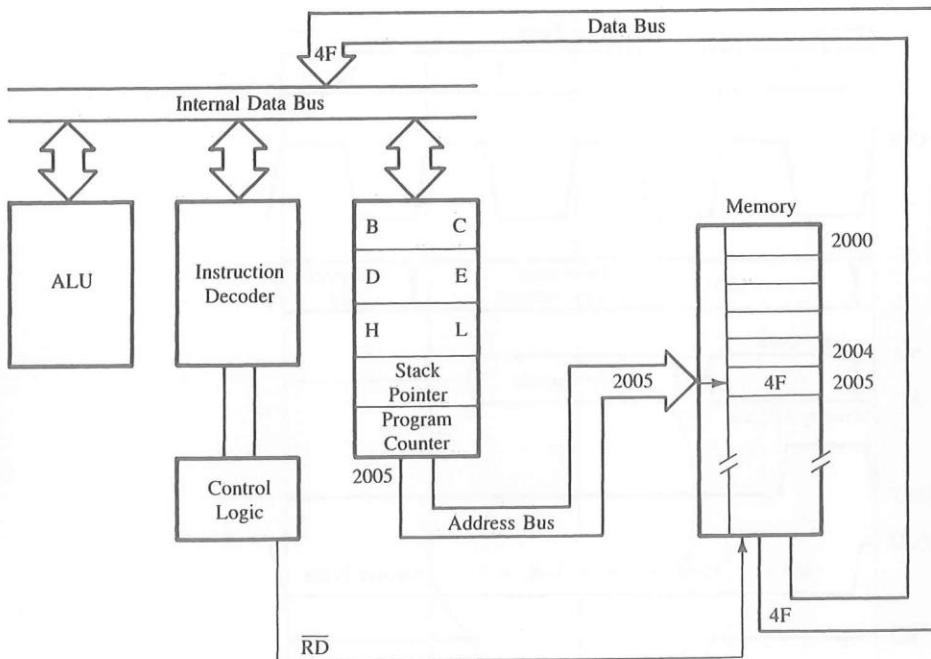
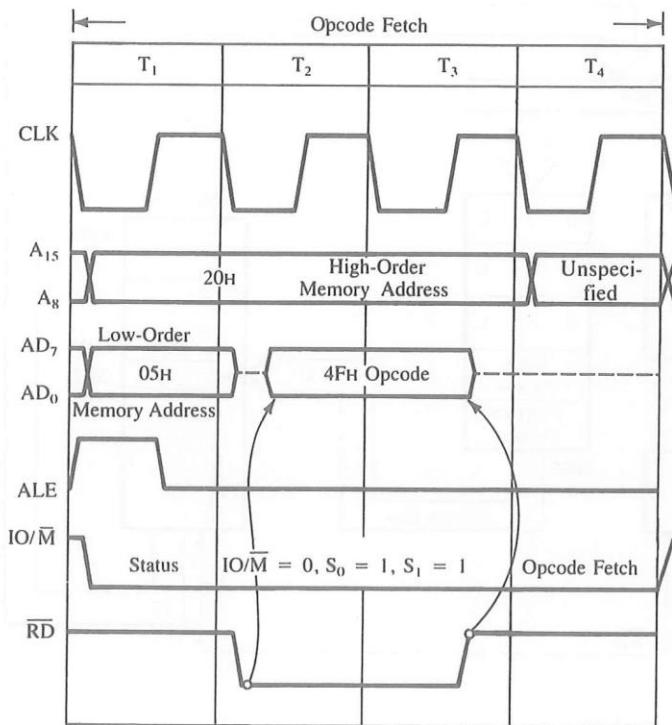

FIGURE 4.2
FIGURE 4.3
To fetch the byte (4FH), the MPU needs to identify the memory location 2005H and enable the data flow from memory. This is called the Fetch cycle. The data flow is shown in Figure 4.2, and the timings are explained below.
Figure 4.3 shows the timing of how a data byte is transferred from memory to the MPU; it shows five different groups of signals in relation to the system clock. The address bus and data bus are shown as two parallel lines. This is a commonly used practice to represent logic levels of groups of lines; some lines are high and others are low. The crossover of the lines indicates that a new byte (information) is placed on the bus, and a dashed straight line indicates the high impedance state. To fetch the byte, the MPU performs the following steps:
Step 1: The microprocessor places the 16-bit memory address from the program counter (PC) on the address bus (Figure 4.2). In our analogy, this is the equivalent of our courier getting on the road to find the address.
Figure 4.3 shows that at T_1 the high-order memory address 20H is placed on the address lines $A_{15}-A_8$, the low-order memory address 05H is placed on the bus AD_7-AD_0 , and the ALE signal goes high. Similarly, the status signal IO/M goes low, indicating that this is a memory-related operation. (For the sake of clarity, the other two status signals, S_1 and S_0 , are not shown in Figure 4.3; they will be discussed in the next section.)
Step 2: The control unit sends the control signal \overline{RD} to enable the memory chip (Figure 4.2). This is similar to ringing the doorbell in our analogy of a package pickup.
The control signal \overline{RD} is sent out during the clock period T_2 , thus enabling the memory chip (Figure 4.3). The RD signal is active during two clock periods.
The machine code or the byte (4FH) is decoded by the instruction decoder, and the contents of the accumulator are copied into register C. This task is performed during the period T₄ in Figure 4.3.
The need for demultiplexing the bus AD₇-AD₀ becomes easier to understand after examining Figure 4.3. This figure shows that the address on the high-order bus (20H) remains on the bus for three clock periods. However, the low-order address (05H) is lost after the
Figure 4.3 shows that the ALE goes high during T_1 . When the ALE is high, the latch is transparent; this means that the output changes according to input data. During T_1 , the output of the latch is 05H. When the ALE goes low, the data byte 05H is latched until the next ALE, and the output of the latch represents the low-order address bus A_7-A_0 after the latching operation.
After carefully examining Figure 4.3, we can make the following observations:
Machine cycle is defined as the time required to complete one operation of accessing memory, I/O, or acknowledging an external request. This cycle may consist of three to six T-states. In Figure 4.3, the instruction cycle and the machine cycle are the same.
Figure 4.3 shows the \overline{RD} (Read) as a control signal. Because this signal is used both for reading memory and for reading an input device, it is necessary to generate two different Read signals: one for memory and another for input. Similarly, two separate Write signals must be generated.
We discussed this operation in Example 4.1. Figure 4.2 shows how the 8085 fetches the machine code, using the address and the data buses and the control signal. Figure 4.3 shows the timing of the Opcode Fetch machine cycle in relation to the system's clock. In this operation, the processor reads a machine code (4FH) from memory. However, to differentiate an opcode from a data byte or an address, this machine cycle is identified as the Opcode Fetch cycle by the status signals ($\text{IO/M} = 0$, $S_1 = 1$, $S_0 = 1$); the active low IO/M signal indicates that it is a memory operation, and S_1 and S_0 being high indicate that it is an Opcode Fetch cycle.